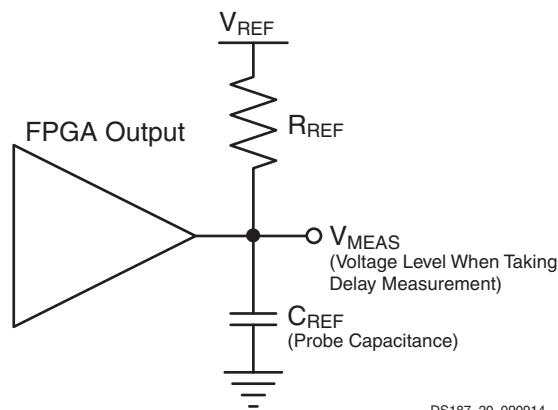
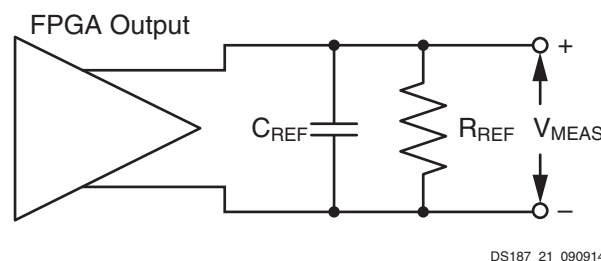

Figure 18: Single-Ended Test Setup
Figure 19: Differential Test Setup
5. This is an input voltage reference that bears no relation to the V_{REF} / V_{MEAS} parameters found in IBIS models and/or noted in Figure 18.
Output delays are measured with short output traces. Standard termination was used for all testing. The propagation delay of the trace is characterized separately and subtracted from the final measurement, and is therefore not included in the generalized test setups shown in Figure 18 and Figure 19.